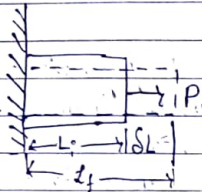

fig. 1.4.
* With reference to fig. 1.4 Linear strain ϵ_{lin}